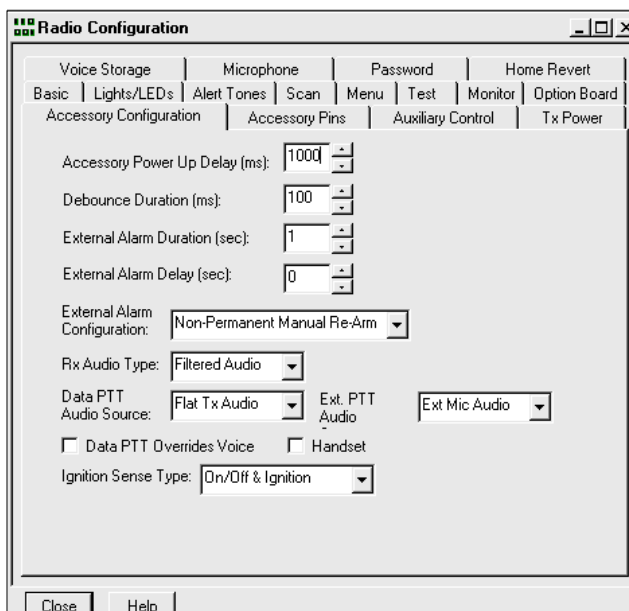

Figure 8-2. Basic (R*I*C*K) Unidirectional Repeater, Accessory Configuration, Receive Radio
7. Click the “Ignition Sense Type:” dropdown arrow button. Select “On/Off & Ignition”. Your screen should appear similar to Figure 8-2.
8. Click the “Ignition Sense Type:” dropdown arrow button. Select “On/Off & Ignition”. Your screen should appear similar to Figure 8-2 on page 8-1.